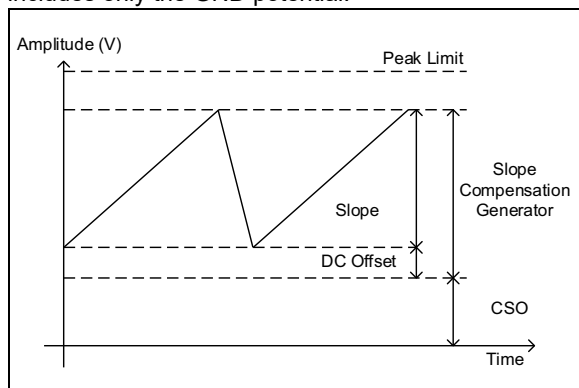
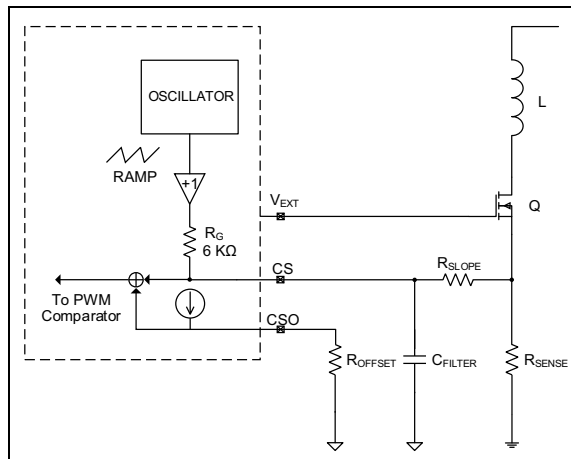

FIGURE 4-2: Slope Compensation Signal.
FIGURE 4-3: Slope Compensation Circuit.
The error amplifier is of transconductance type (OTA) with external compensation network connected between the output (COMP) and the ground. The error amplifier generates an error signal proportional to the difference between the LED current sense feedback voltage and V_{REF} input voltage. The error amplifier output is clamped by a precision 2.7V internal voltage source. The output of the error amplifier is connected to the inverting input of the high-speed comparator. As the output load current demand increases, the error amplifier output increases too, causing the inverting input pin of the high-speed comparator to increase. Eventually, the output of the error amplifier will hit the clamp, limiting the input of the high-speed comparator to 2.7V. By limiting the inverting input to 2.7V, the current sense (IP) input is limited to 2.7V minus DC offset value (CSO), thus limiting the current that flows in the main switch. Limiting the maximum peak current in the switch prevents the destruction of the semiconductor device and the saturation of the inductor during overloads. To simplify the design when CS signal is too small so peak limit is far away, there is another feature called I peak offset (CSO). This DC value is added over current sense information to avoid output overloads. Refer to Figure 4-2 and Figure 4-3 for a detailed description. The error amplifier input includes only the GND potential.